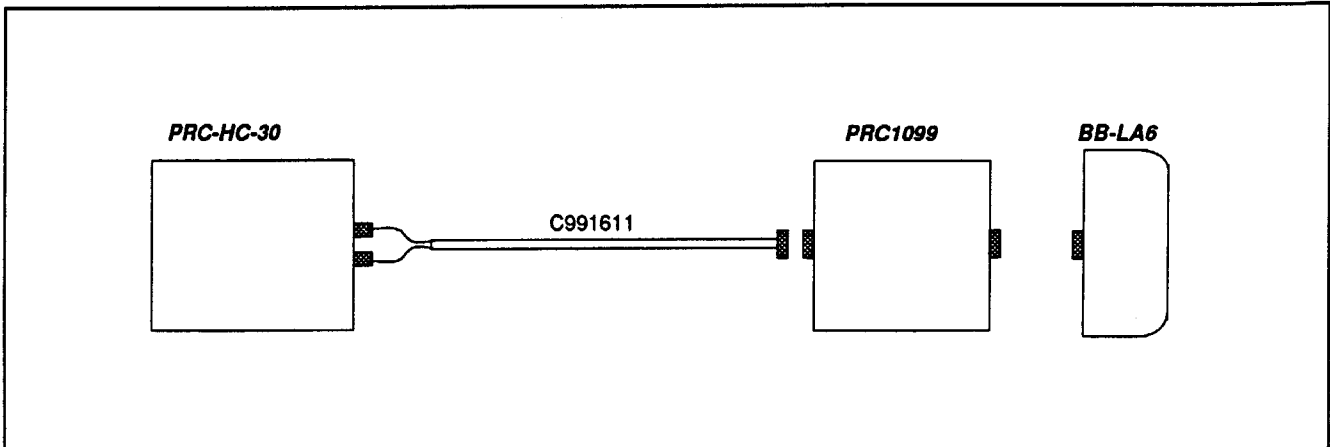

FIGURE B-4.
a) The standard method of battery charging using the PRC-HC-30 is shown in Figure B-4.